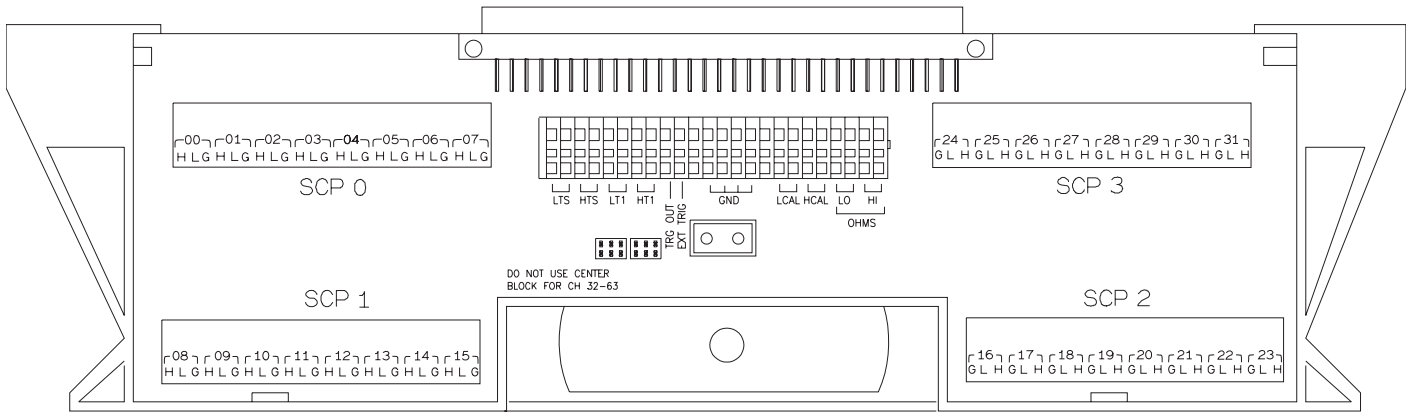

Figure 2: VT1501A B-size Terminal Module Connections (Ch 00-31)
- For Agilent/HP E1313 Terminal Modules, use stickers for VT1501A SCPs. The connections are shown in Figures 2 and 3.